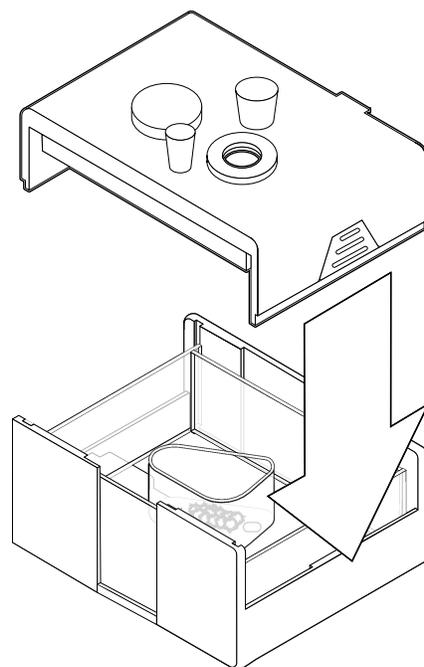

Figure 1: Secure the lid on top of the photosynthesis chamber.
2. Lower the chamber lid onto the photosynthesis chamber, as shown in Figure 1. The tab on the side of the lid ensures that the lid can only be inserted in a single orientation. Press inward on the lower portions of the lid and slide the lid down to secure it in place.